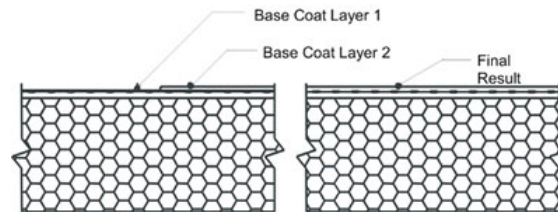

Fig. 11
- 3) Allow the base coat mixture to take up until firm to the touch. Trowel a second tight coat of the base coat mixture over the first coat to fully cover the reinforcing mesh - Figure 11. The result should be such that the reinforcing mesh is approximately centered within the base coat thickness. Do not allow the first pass to completely dry prior to the second pass application or an excessive amount of base coat mixture will be necessary to fully coat the wall surface.